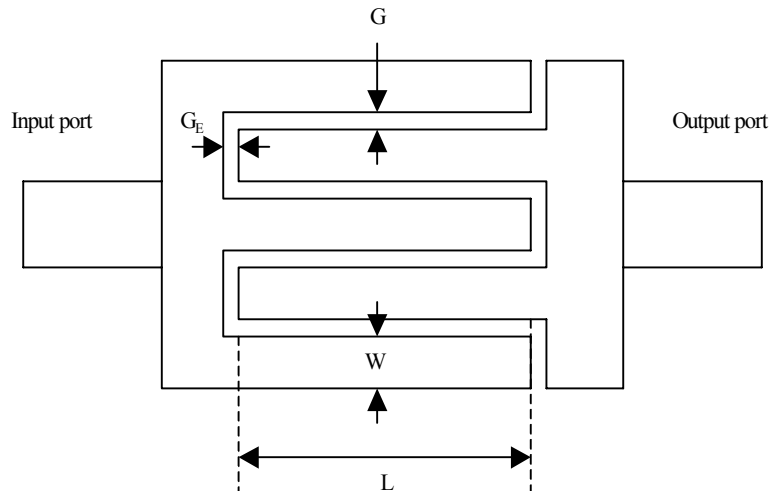

Figure 1. Interdigital Capacitor Geometry
The interdigital (or interdigitated) capacitor is an element for producing a capacitor-like, high pass characteristic using microstrip lines. The shape of conductors is defined by the parameters shown in Figure 1. Notice that the long conductors or “fingers” provide coupling between the input and output ports across the gaps. Typically, the gaps (G) between fingers and at the end of the fingers (G_E) are the same. The length (L) and width (W) of the fingers are also specified. Since the conductors are mounted on a substrate, its characteristics will also affect performance. Of particular importance are the height of the substrate (h) and its dielectric constant (ϵ_r). In addition, the thickness of the conductor (t) and its resistivity (ρ) will also impact the electrical characteristics.